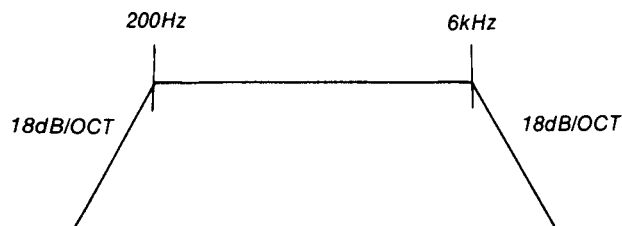

Fig. 9-32.
- \*1 This value applies when a distortion measuring filter (Fig. 9-32) is used (approx. 1.0% when the filter is not used).